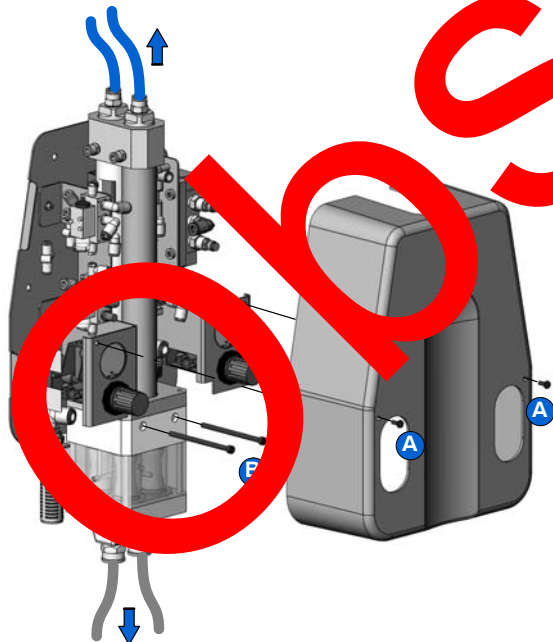
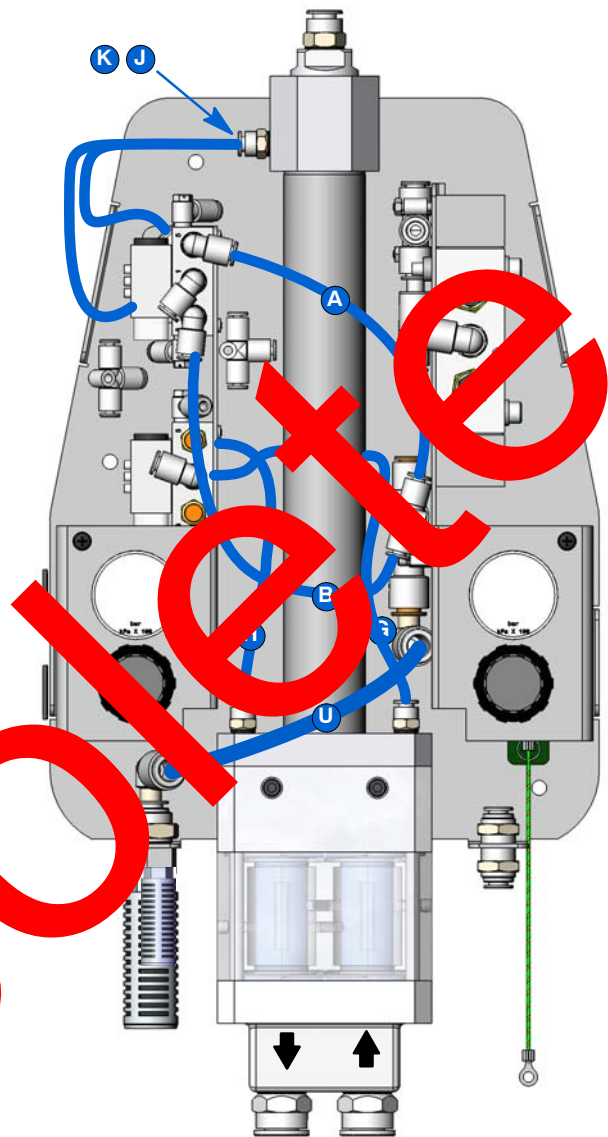

Figure 9 Removing the Pump Assembly
Figure 10 Disconnecting Air Tubing
1. See Figure 9. Disconnect the purge air lines from the top of the pump.
3. Remove the two screws (A) and the cover from the pump.
4. See Figure 10. Disconnect one end of each of the seven air tubes indicated.
**NOTE:** The letters in Figure 10 correspond to the letters in the *Tubing Diagram* on page 20.
5. See Figure 9. Remove the two screws (B) securing the pump assembly to the base. Remove the pump assembly to a clean work surface.